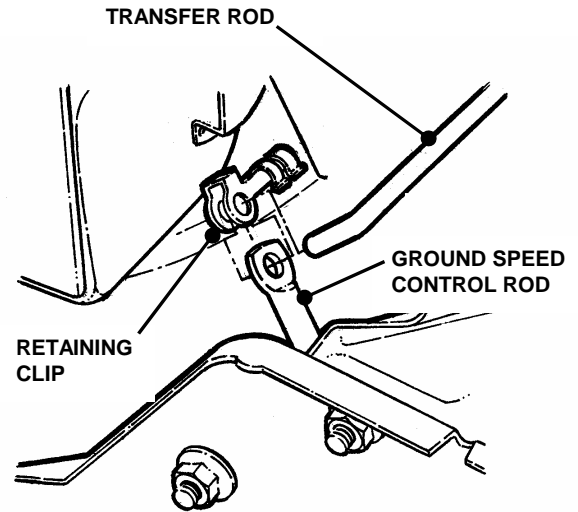

FIGURE 4.6
2. Remove transfer rod retaining clip. See Figure 4.6.